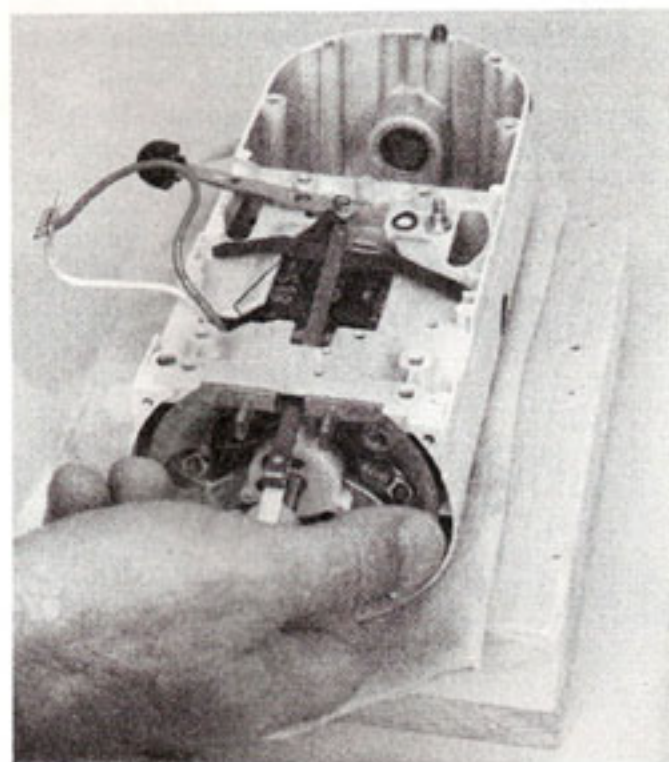
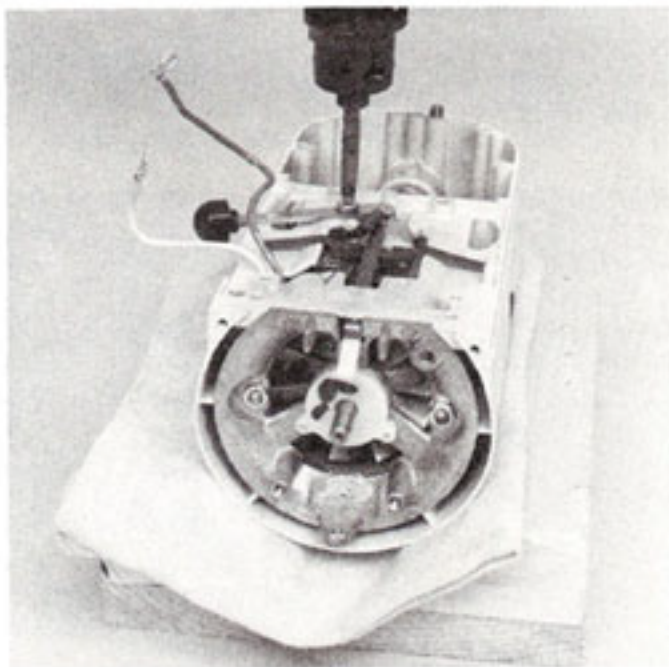

Fig. 44
Fig. 45
- L. Place the speed control link and cam assembly through the slot in the bearing bracket with the cam portion of the speed control link and cam assembly toward the top of the gear case and motor housing. Place flat spring in position and slide the speed link and cam assembly over the flat spring (Fig. 44). Place the speed control spring on the switch lever stud. Place the speed control link and cam assembly over the stud on the switch lever. Place the tension washer on the pivot screw and screw it into the gear case and motor housing until tight (Fig. 45).